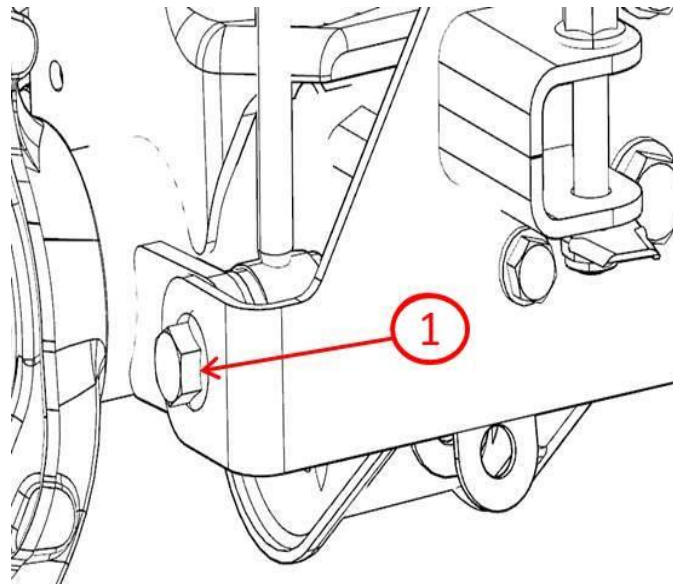

Fig. 3 Stabilizer Bolt
12. Reinstall the production stabilizer link on the inside of the bracket reusing the production bolt (1) and nut. Tighten to 108 N·m (80 ft-lbs) (Fig. 3).